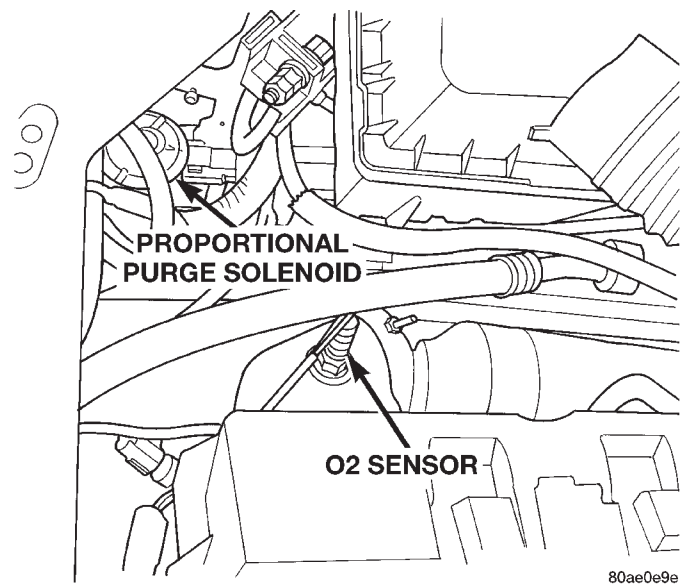

Fig. 59 Heated Oxygen Sensor Removal/Installation
- (1) Disconnect the heated oxygen sensor electrical connector.
- (2) Use a socket such as Snap-On YA8875 or a crow foot wrench to remove oxygen sensor (Fig. 59).